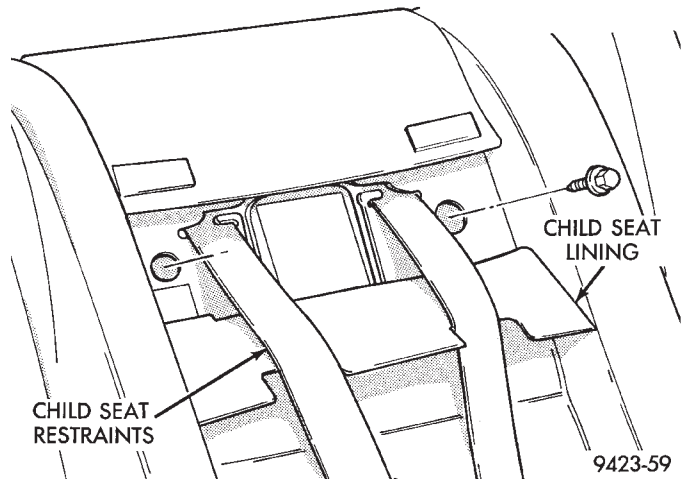

Fig. 6 Rear Seat Back with Child Seat
- (1) Remove rear seat cushion.
- (2) Open child seat and remove lining.
- (3) Remove bolts holding seat back frame to trunk closure panel through access holes in child seat module (Fig. 6).
- (4) Remove nuts holding bottom of rear seat back to floor.
- (5) Lift seat back upward to disengage retainer hook from trunk closure panel.
- (6) Separate rear seat back from vehicle.